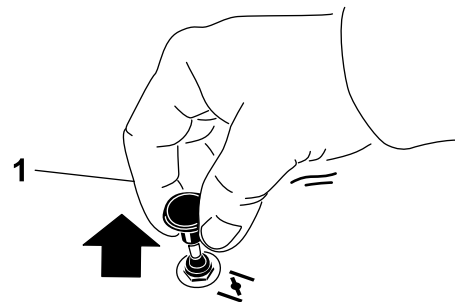

Figure 13
2. Pull up on the choke knob to engage the choke before using the ignition switch (Figure 13).
3. Push down on the choke to disengage the choke after the engine starts (Figure 13).